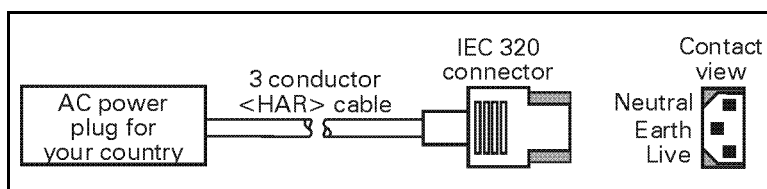

Figure 37
- The chassis ground (earth) **MUST** be connected to ensure safety and reduce electromagnetic interference. The ground connection is handled by the third wire (earth) in the power line cord. See Figure 37.